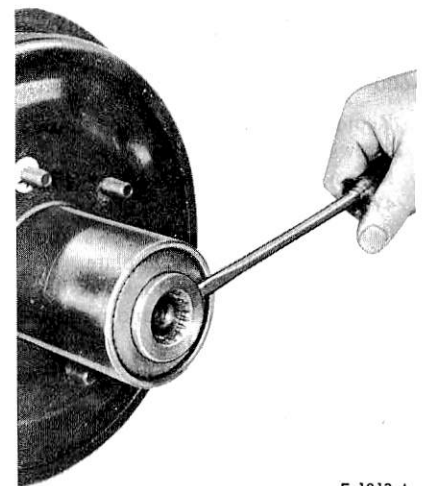

FIG. 2 Removing Splined Driving Hub
3. Remove the front hub grease cap. Remove the driving hub retaining snap ring and slide the splined driving hub from between the axle shaft and the wheel hub (Fig. 2). Remove the driving hub spacer. (If equipped with free running lock-out hubs, refer to Front Wheel Drive Lock-Out Hub Removal in Group 15).
5. Using Tool T59T-1197-B and a torque wrench, tighten the bearing adjusting nut (Fig. 2, Part 11-02) to 50 ft-lb, while rotating the wheel back and forth to seat the bearings.